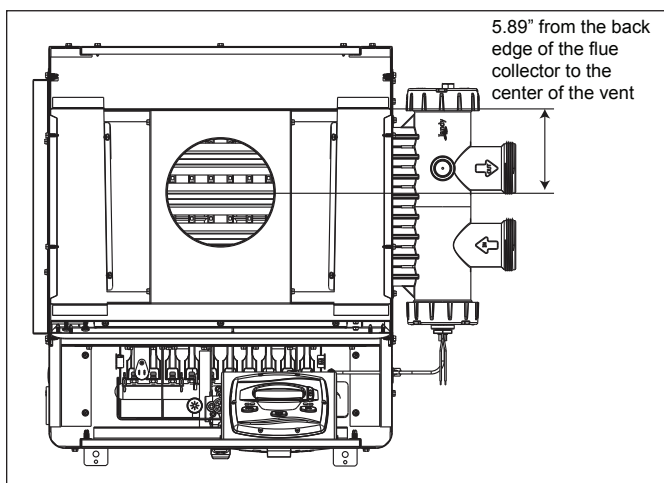

Figure 3. Installation of Transition Plate and Vent Pipe Flange
6. Place the transition plate securely on top of flue collector so gas will not leak. Make sure transition plate is placed so that the vent pipe flange is located towards the rear of the heater. See Figure 3.